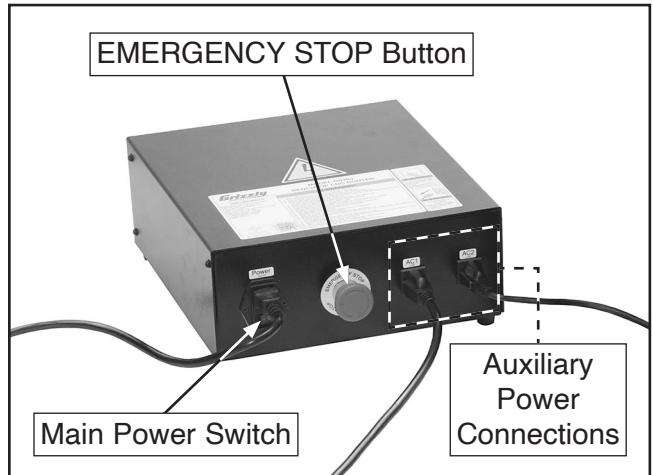

Figure 8. Location of control box auxiliary power connections.
- Turn main power switch on control box to OFF position, then press EMERGENCY STOP button (see **Figure 8**).
- Connect power cords from VFD and cooling pump to available auxiliary power connections on control box (see **Figure 8**).